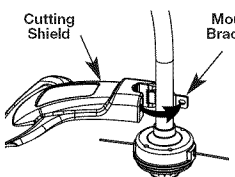

Fig. 1
- Place the cutting attachment shield onto the shaft housing. Be sure the guard mounting bracket slides into the slot on the edge of the cutting shield. Rotate the shield into place, counterclockwise (Fig. 1). The holes in the guard mounting bracket and cutting attachment shield will line up.